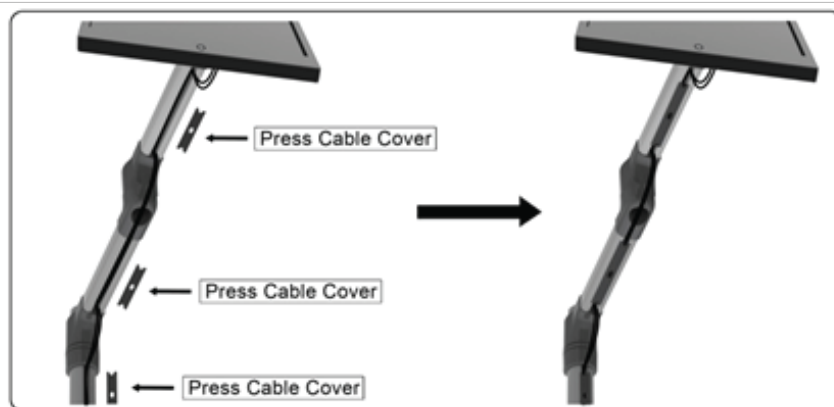

Figure 12
2. Secure the cables in place by snapping the Cable Covers (7) into the Cable Channels. **(See Figure 12)**